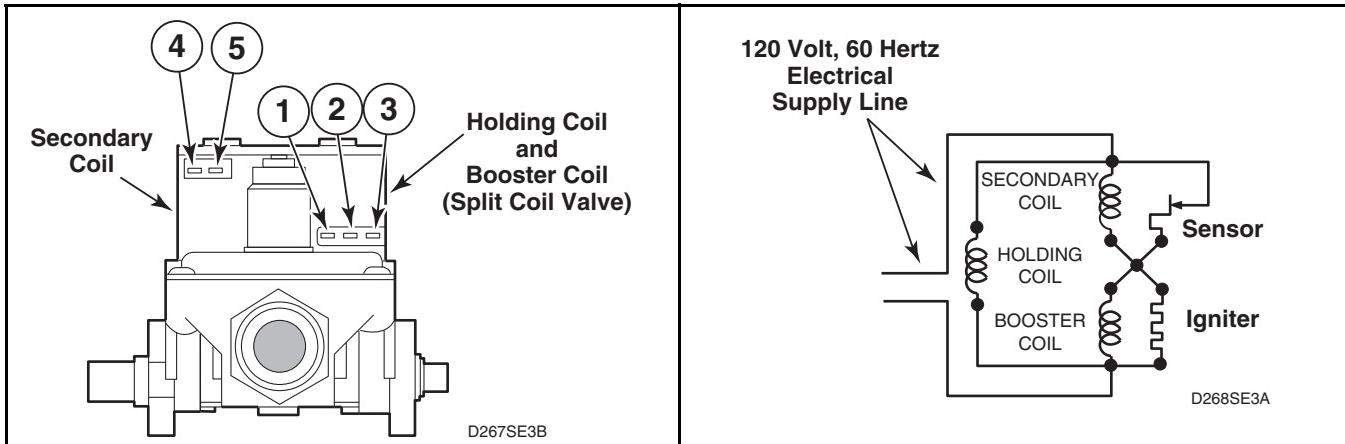

Figure 16
(Gas Models – Refer to Figure 16.)
- f. Set test meter to read AC voltage and apply meter probes into terminals on the dryer harness plug that would correspond to terminals "1" and "2" on the coil. Refer to *Figure 16*. Meter should register line voltage in all Fabric settings, except FLUFF which should read "zero" VAC.